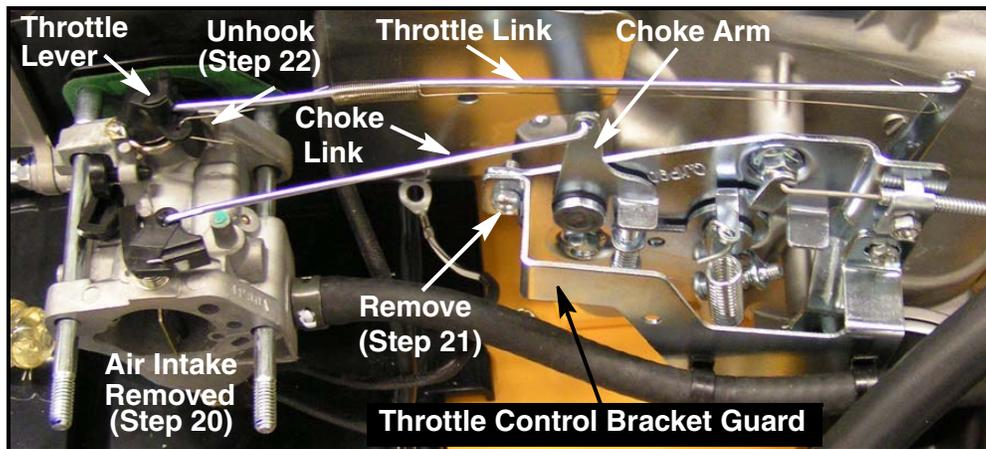

FIGURE 9
B. Using a No. 2 phillips screwdriver or 8mm socket and ratchet, remove the forward most screw securing the throttle control bracket guard. This will allow the choke arm to rotate forward past the guard allowing the carburetor to be slid off the studs sufficiently to permit the choke link to be unhooked from the choke arm. See Figure 9.
C. Unhook the throttle link tension spring from the throttle lever. See Figure 9.